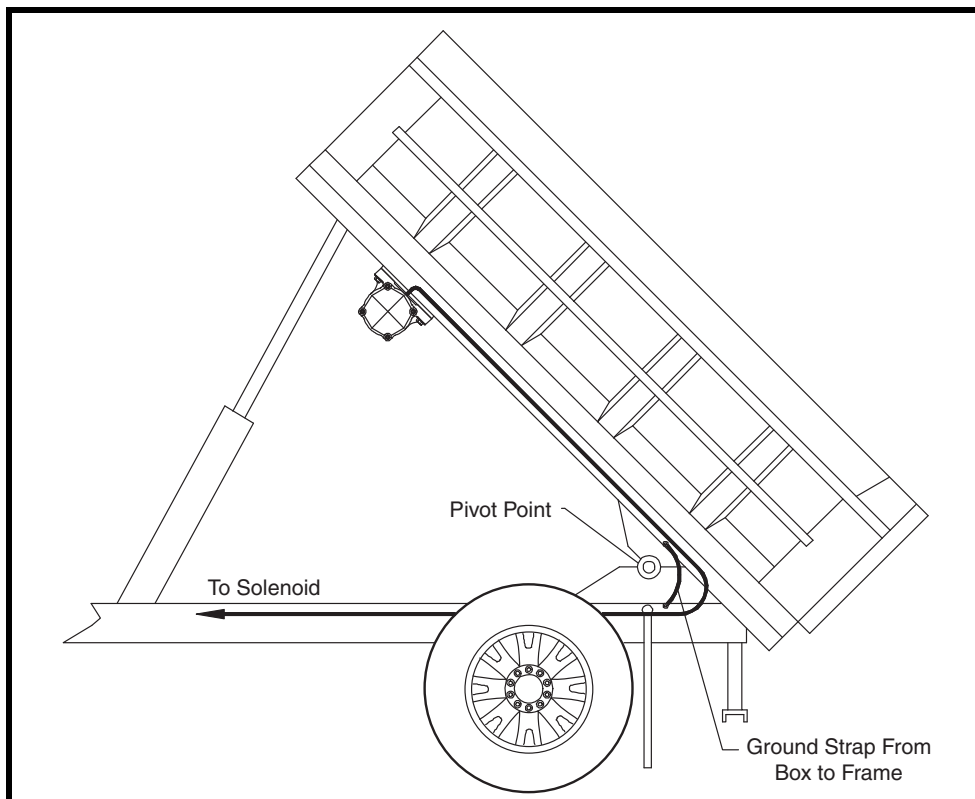

Figure 3. Ground Strap Connections
6. Run the cable down the truck box and around the pivot point in a position where the cable will not be pinched or pulled when the box is raised and lowered. (See Figure 3.)
13. Make sure truck box is properly grounded by running a ground strap behind the pivot point and attach to truck frame. This will ensure that the vibrator has the best possible ground. (See Figure 3.) Use #4 wire and ring terminals provided to make a ground strap.
It is necessary to connect a ground strap from the box to the truck frame using #4 flexible cable. (See Figure 3.)